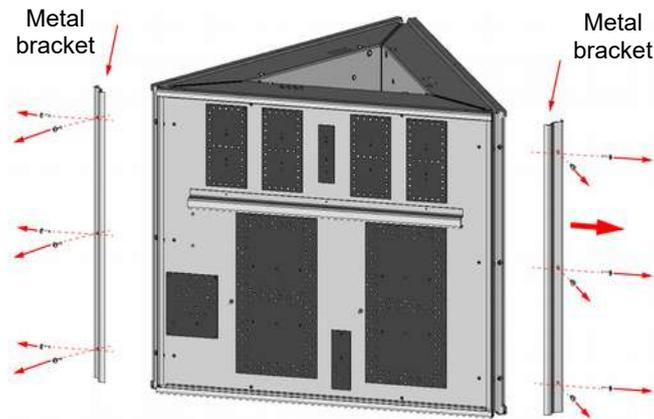

Fig. 3.3: Removal of side metal profiles
4. Remove the fixing screws and the related metal profiles as shown in Fig. 3.3.